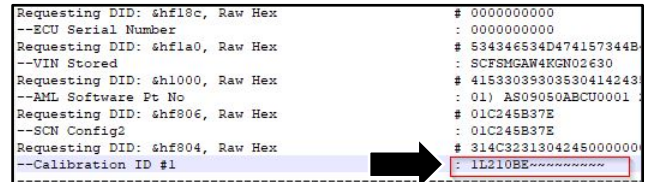

Figure 4
8. The calibration ID will show at the bottom of the read for the ECM\_V8 (refer to Figure 4).